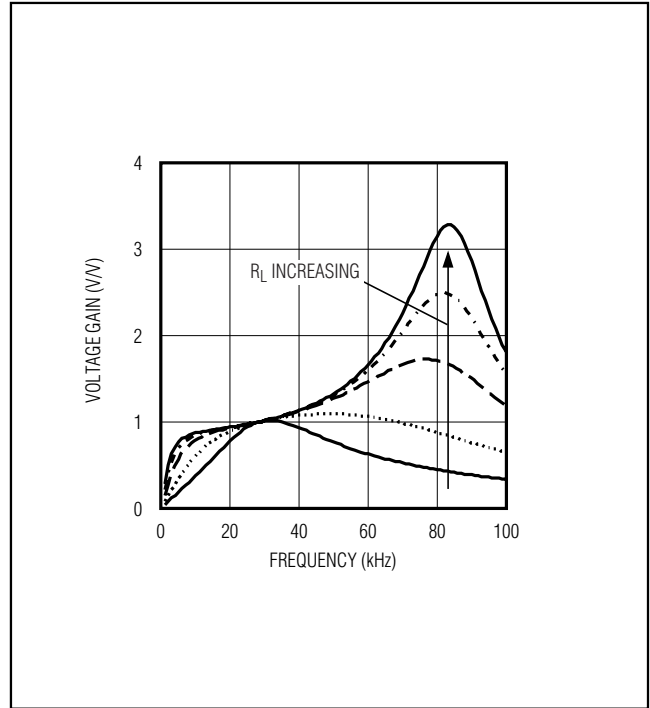

Figure 6. Frequency Response of the Resonant Tank
Figure 6 shows the frequency response of the resonant tank's voltage gain under different load conditions. The primary series capacitor is $1\mu\text{F}$, the secondary parallel capacitor is 15pF , the transformer turns ratio is 1:93, and the secondary leakage inductance is 260mH . Notice that there are two peaks, f_s and f_p , in the frequency response. The first peak f_s is the series resonant peak determined by the secondary leakage inductance (L) and the series capacitor reflected to the secondary (C_s'):